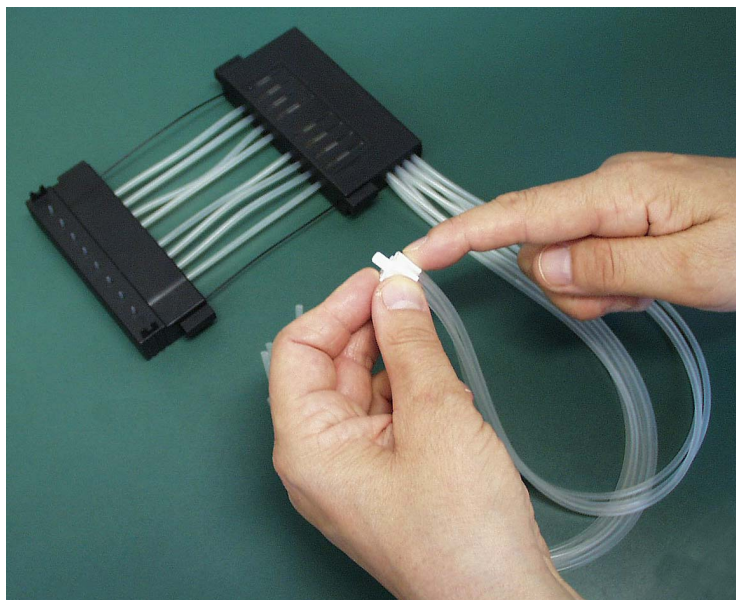

Fig. 7.35 Inserting the tubes into the tubing weight
19. Insert the eight tubes into the tubing weight either at this stage or earlier (Fig. 7.35). The new tubing set has now been successfully fitted.